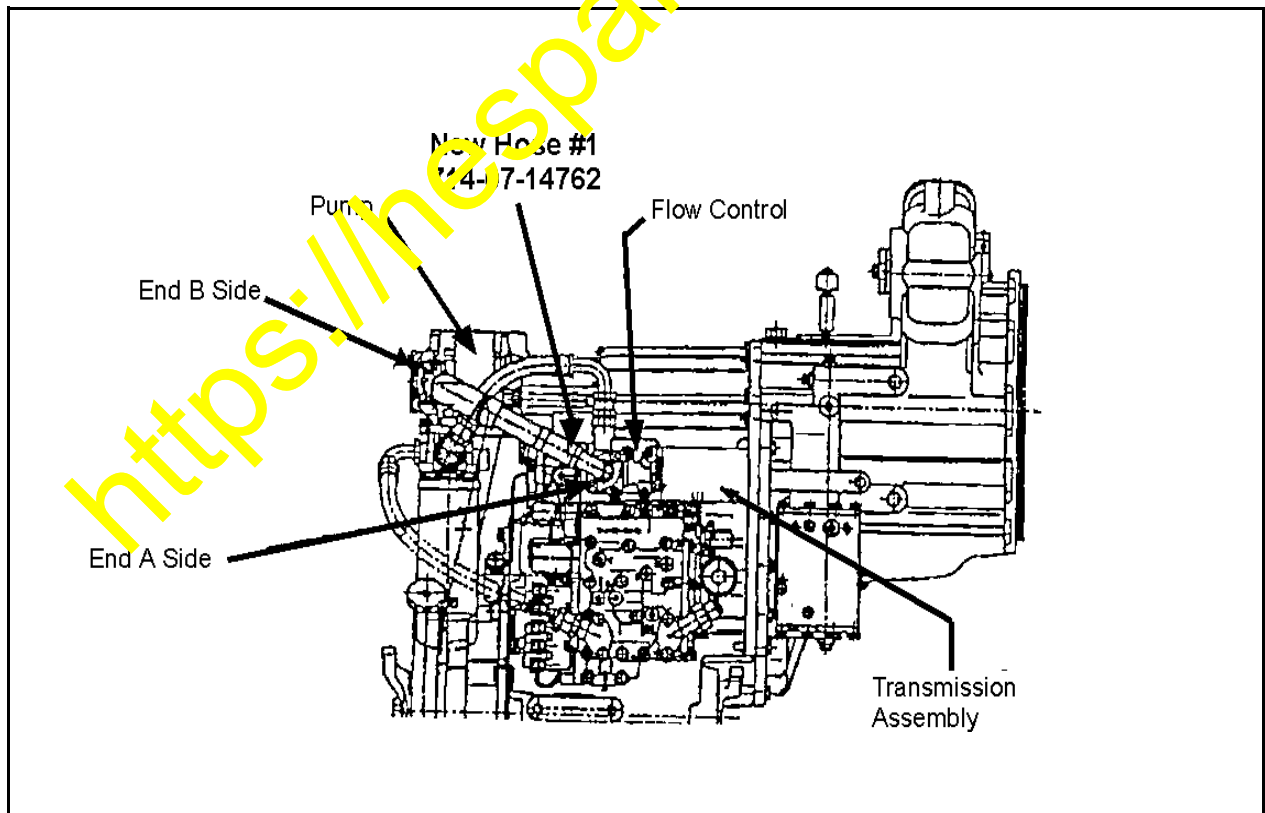

Figure 8
6. Install the new hose #1 (714-07-14762) in place and temporarily tightening the bolts at both ends. This is to ensure that the hose is not twisted. See Figure 8.
7. The bolt on the flow control valve side (End A) will be tightened to 3-4Kg-m and paint LT-2, and end B (Pump side) tighten to 6-7 Kg-m. See Figure 8.